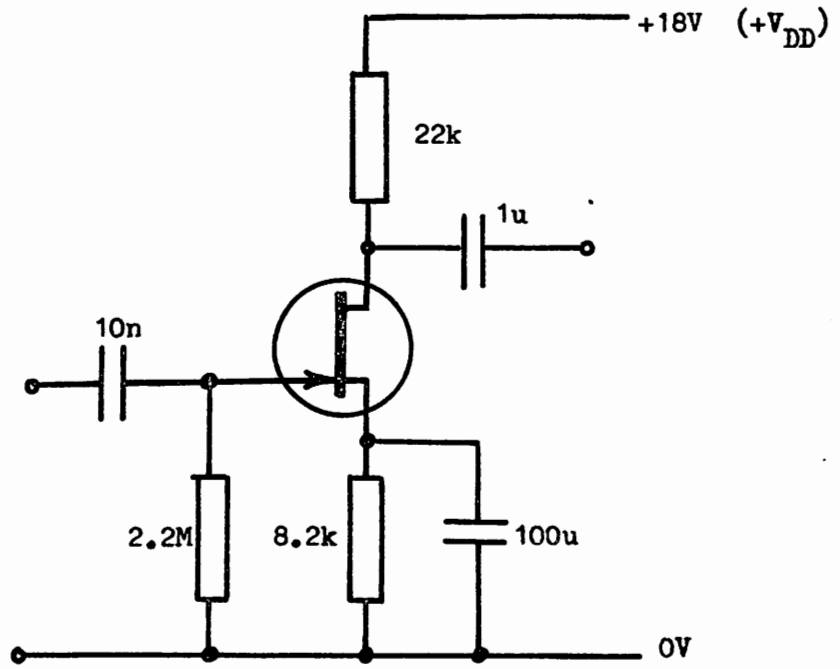

Figure 10: JFET Amplifier Employing Automatic Bias
- 7.5 The gate of an FET would normally be biased negative with respect to the source to ensure that the gate source never becomes forward biased. Figure 10 shows a typical FET circuit employing automatic bias.  $R_G$  ties the gate to zero volts DC whilst maintaining a high input impedance to a.c. signals. The source current through  $R_S$  ensures the gate's d.c. potential is negative with respect to the source.